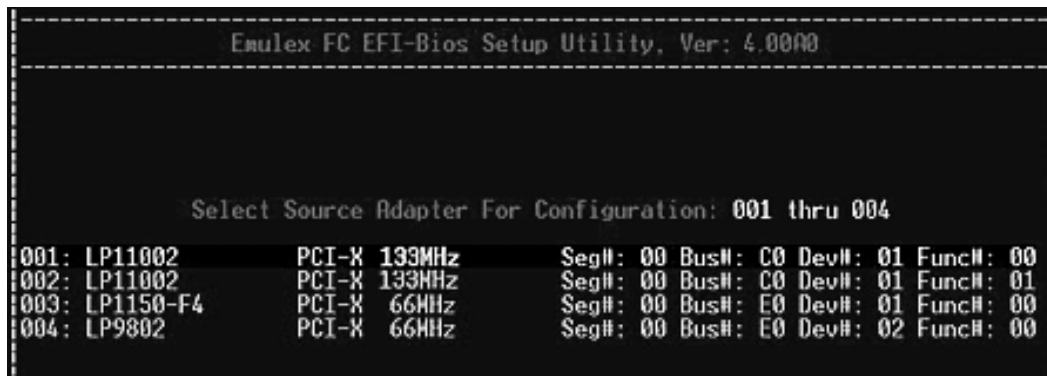

Figure 54: Select Source Adapter for Configuration listing screen
2. Select **1. Read Configuration from NVRAM** and press **<Enter>**. A list of the adapters in the system is displayed (Figure 54).